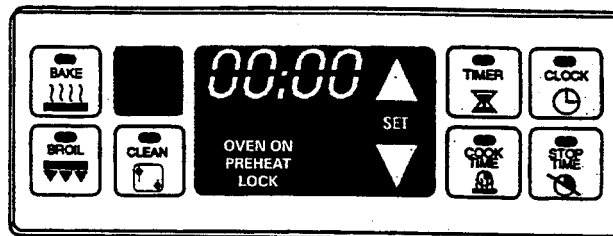

Figure 2-5
**RSI** - The keypads for the RSI clock activate a mechanical switch mounted to the face of the control and have an activation force of 12 to 28 ounces of pressure needed to close the selected switch, *see figure 2-5.*